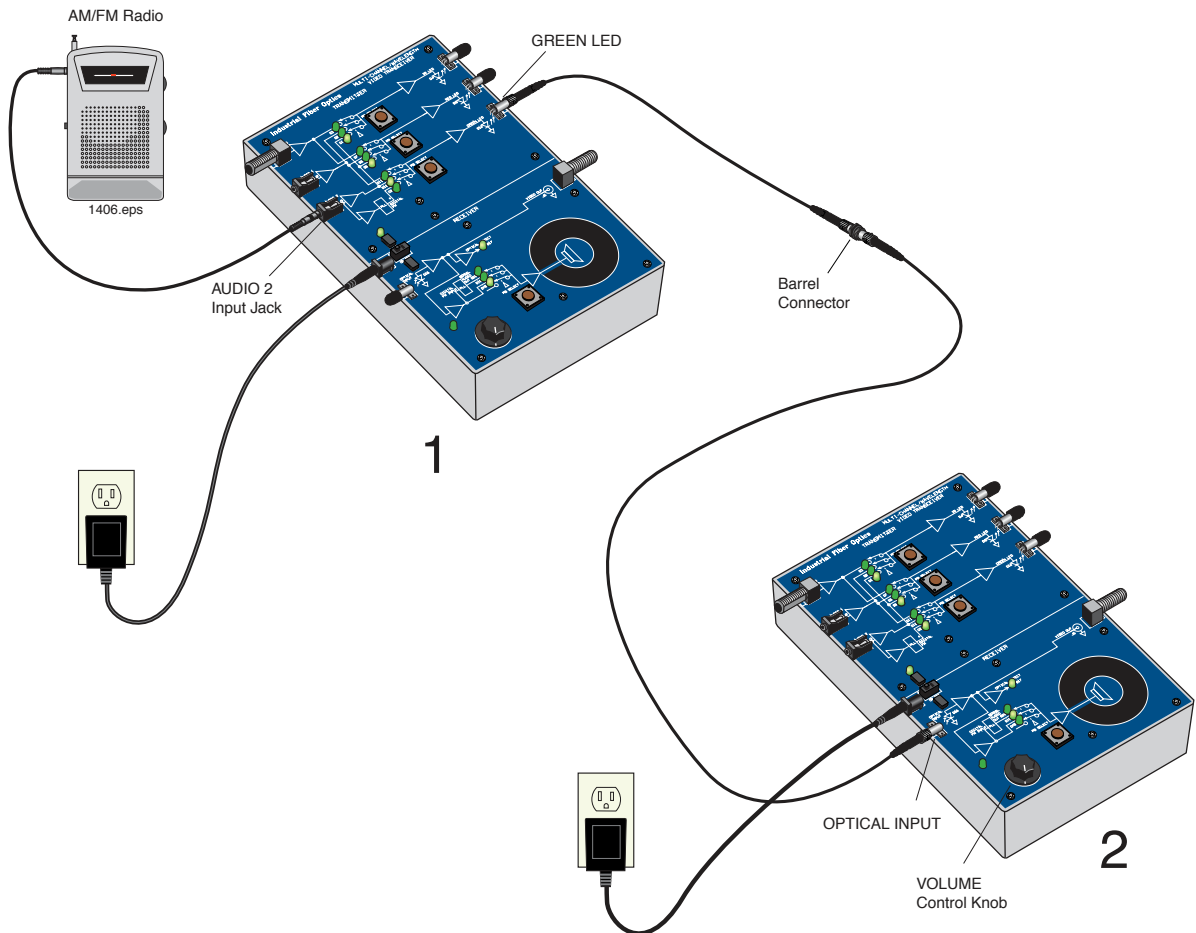

Figure 25. Test diagram for Experiment B for comparing decreased signal transmission with longer fibers.
5. Your equipment set-up in this experiment should not look like the diagram in Figure 25.